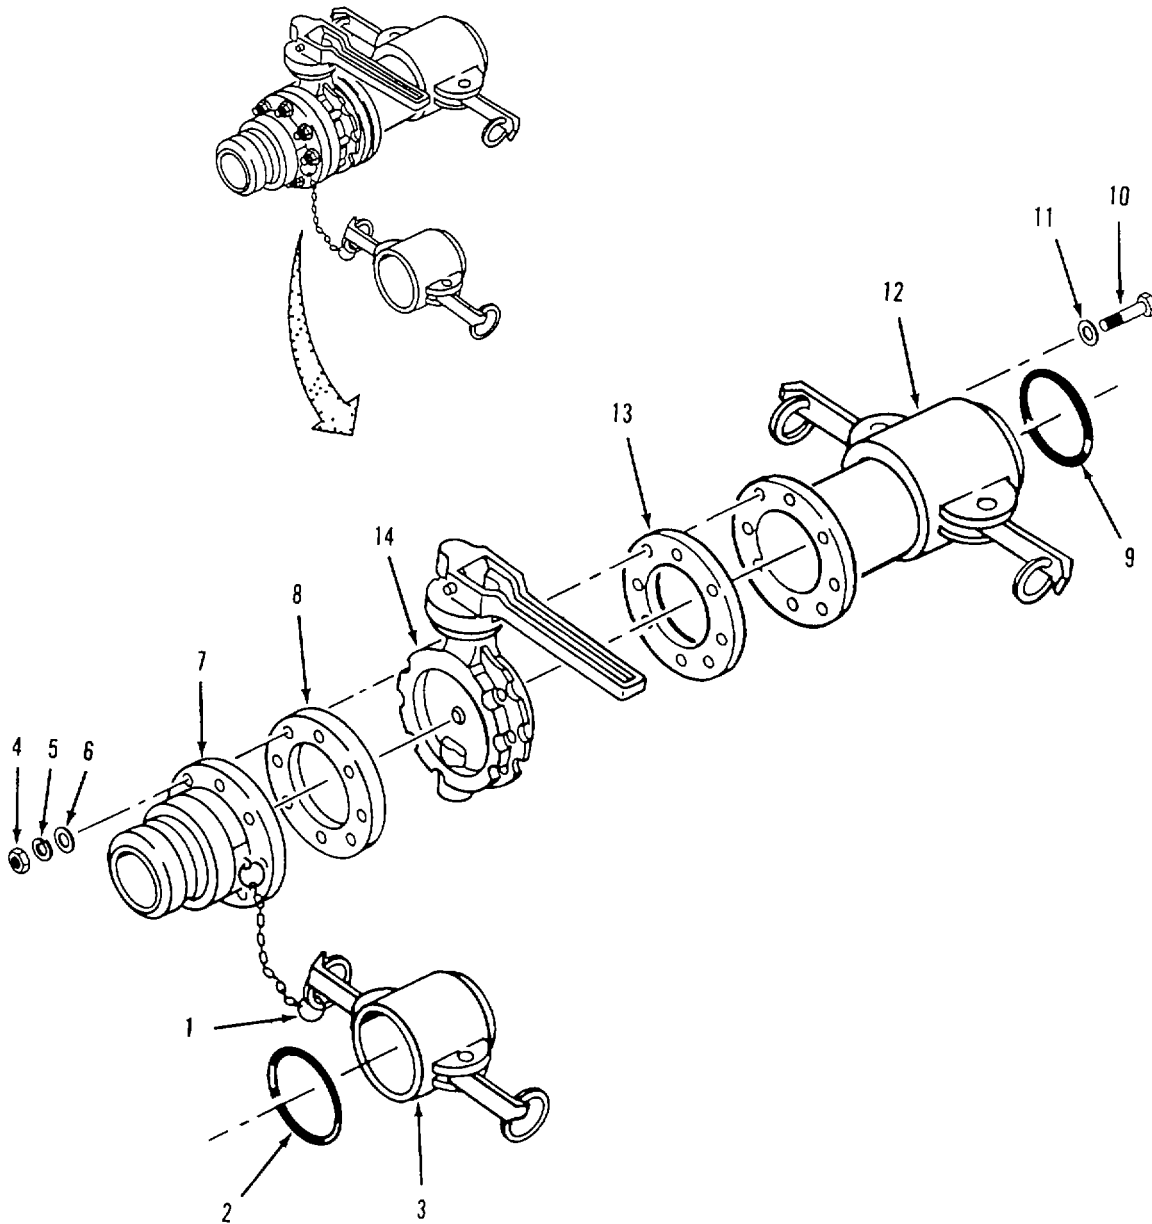

Figure 4-16. Butterfly Valve Disassembly.
Butterfly valve removal Refer to figure4-16.
- (1) Inspect male coupling (7, figure 4-16), female coupling (12) and cap (3) for cracks and corrosion.
Butterfly valve installation Refer to figure 4-16.